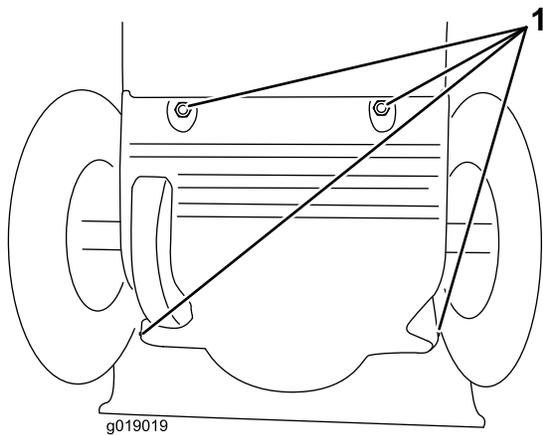

**Figure 42**
Lightly lubricate the hex shaft yearly with automotive engine oil (Figure 42).
**Important:** Do not get oil on the rubber wheel or the steel friction pulley because the traction drive will slip (Figure 42).